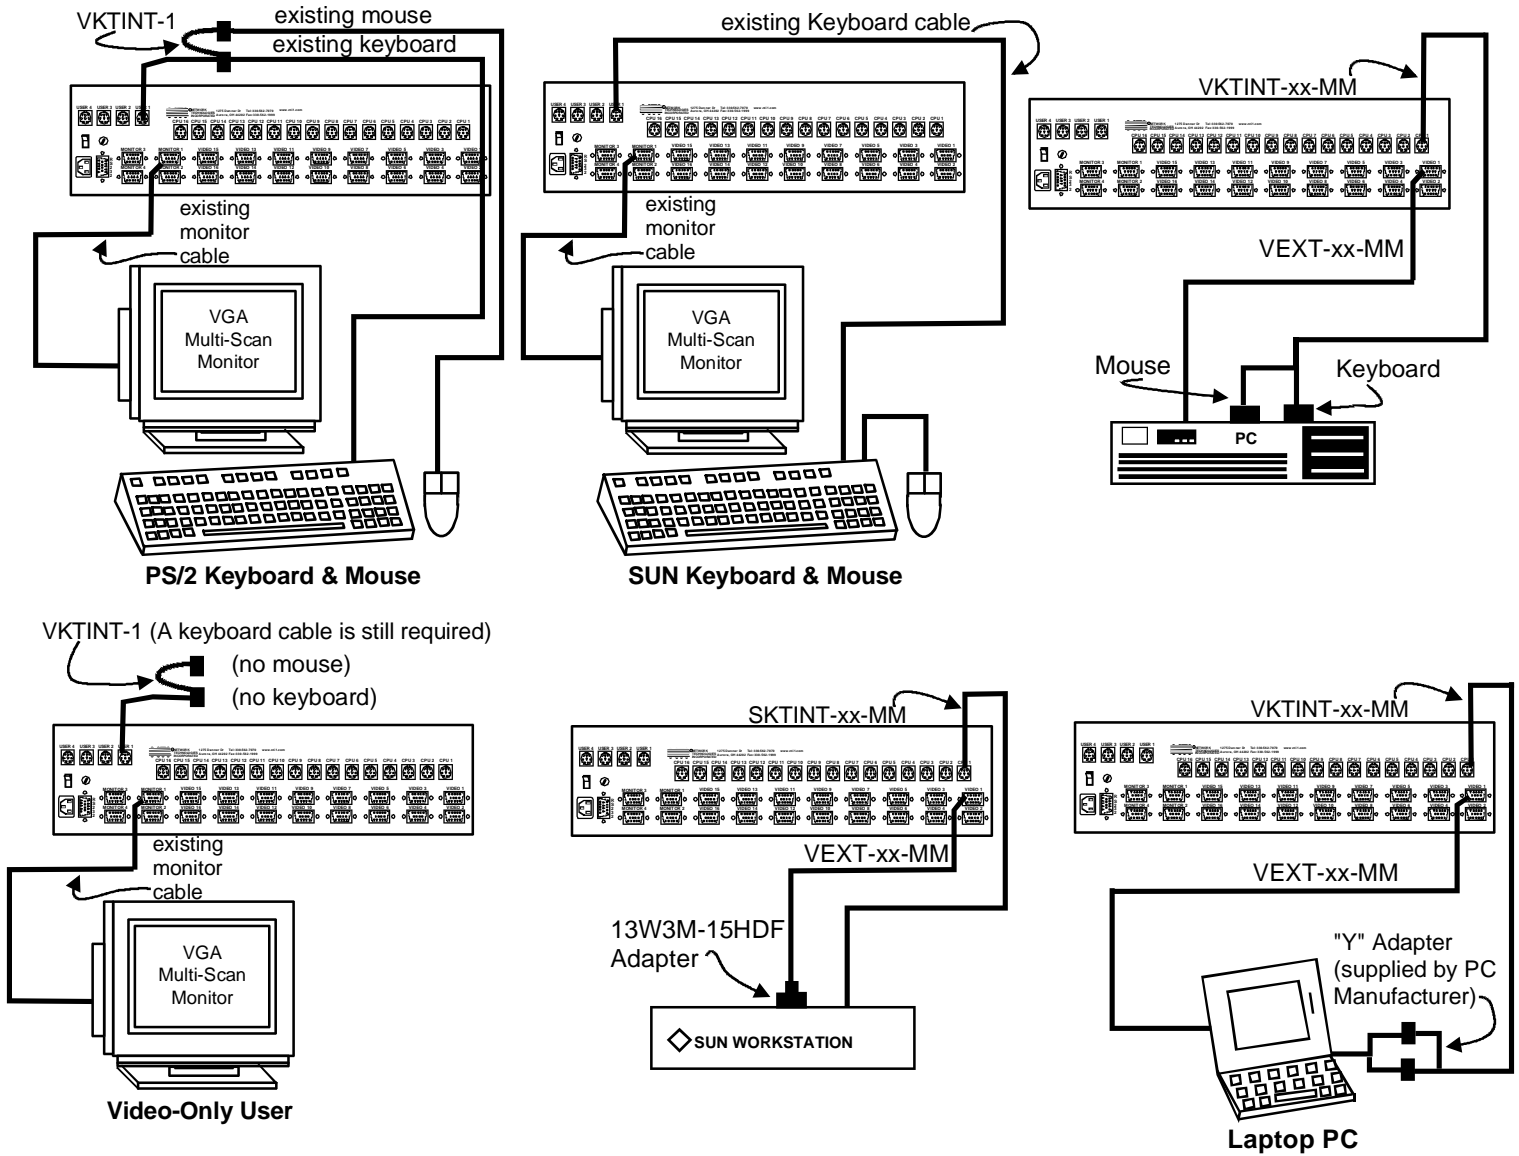

Figure 5- Cable Selection Guide
**FYI:** If it is desired for only a monitor to be connected to a set of user ports, an NTI keyboard cable (VKTINT-1 for example) must also be connected to the keyboard port for that user. (The other end of the VKTINT-1 does not need to be connected to anything.) This is required in order to enable the user of that port to switch between CPU ports on the NTI Universal KVM switch. (See Figure 5- Cable Selection Guide on page 10 "Video-Only User".)